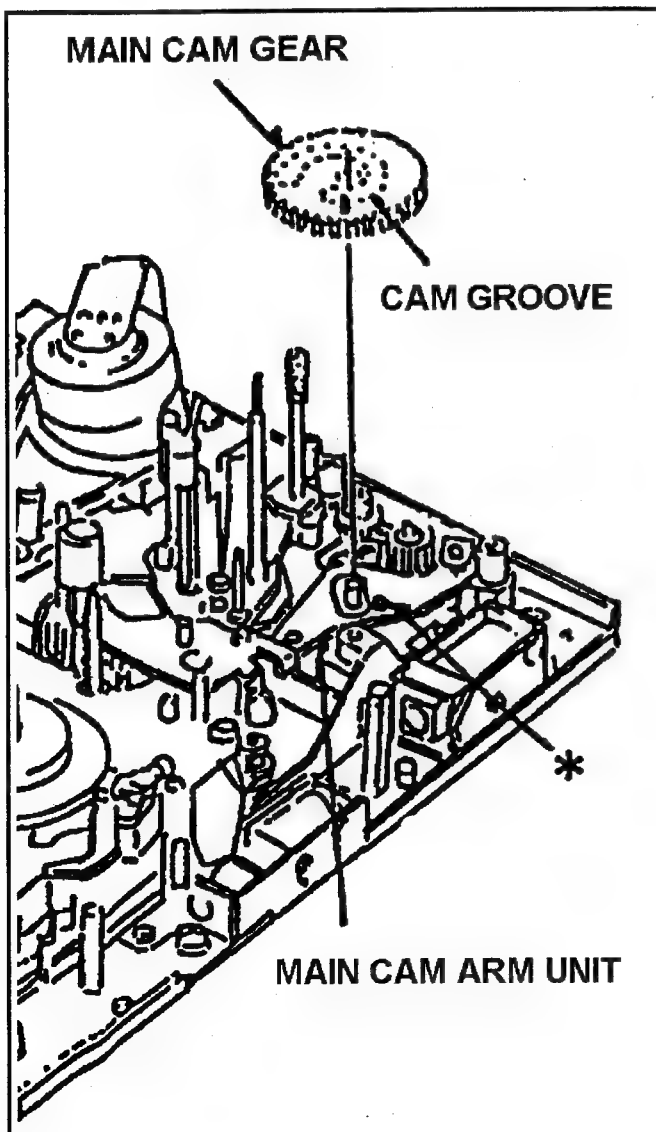

Fig. 6-19-1 Removal of Main Cam Gear
3. Remove the Pinch Solenoid Unit (Refer to item 6-5) and Loading Motor Neutral Unit (Refer to item 6-4).
4. Remove the Main Cam Gear as shown in Figure 6-19-1.
1. Install the Main Cam Gear, then the pin of Main Cam Arm Unit (※) should be matched with the groove position of Main Cam Gear as shown in Figure 6-19-1.
3. After installation, Pinch Solenoid Position Adjustment is required (Refer to item 5-2).